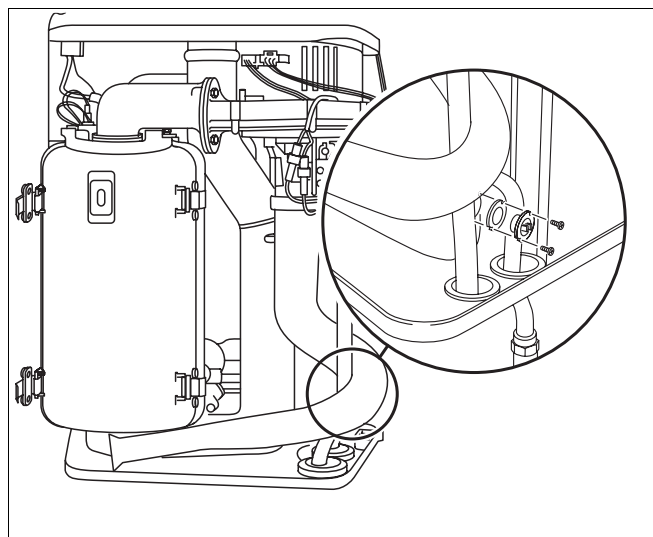

Fig. 53 600 - 11S / 19S / 24S / 24C:
- Remove the flue gas sensor and replace with a new unit (fig. 53).